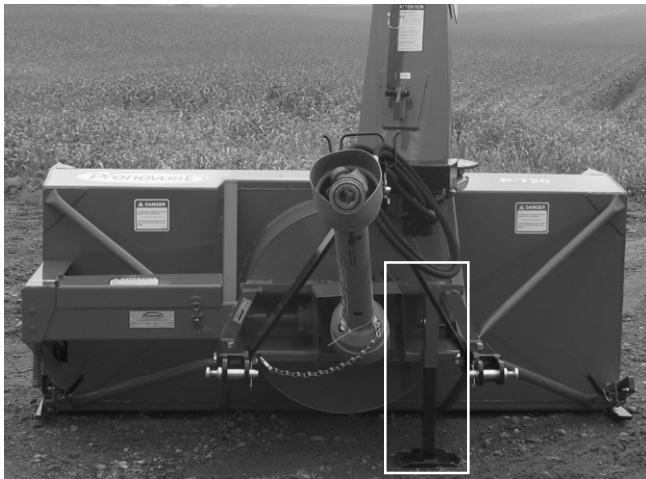

Figure 22
- 6) Following the installation of the Snowblower on the tractor, **do not forget** to lift the storage support (Fig. 22).